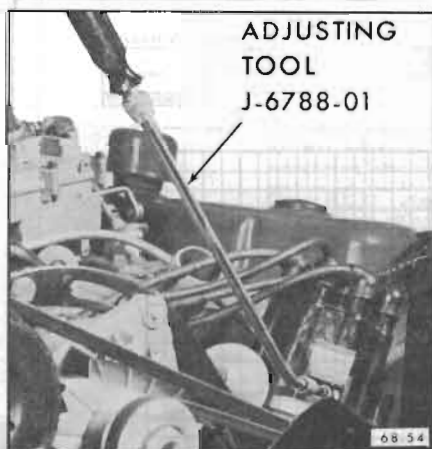

Figure 68-39—Adjusting Contact Point Dwell Angle
3. Start engine. Lift adjustment window and insert 1/8" Allen wrench in adjusting screw. See Figure 68-39. Set dwell angle at 30 degrees.